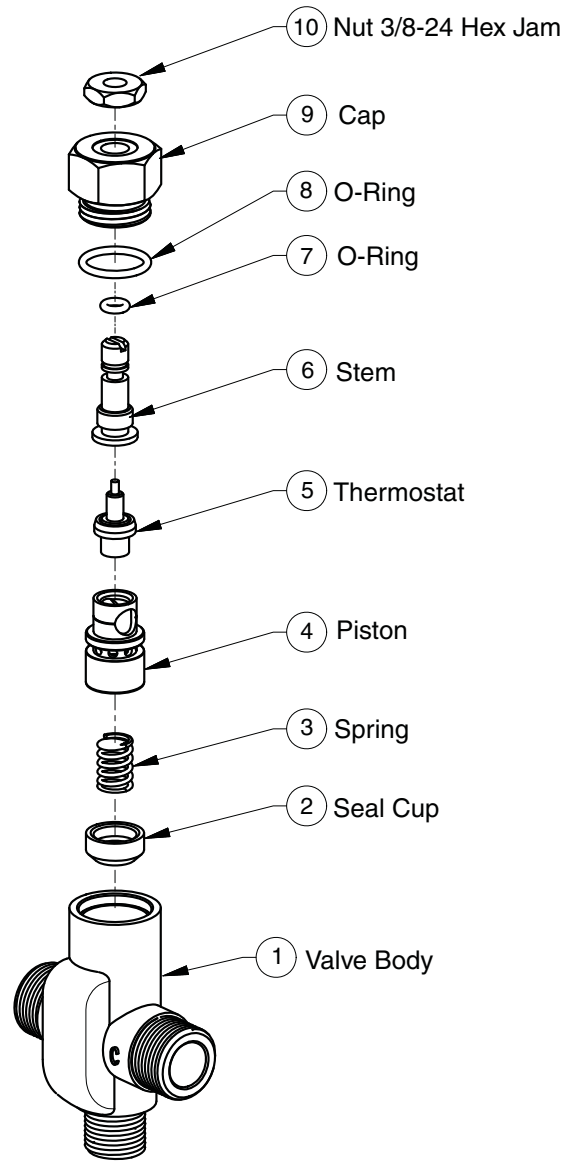

Figure 14
1. Remove the valve's cap and thermostat (see Figure 14 on Page 29).